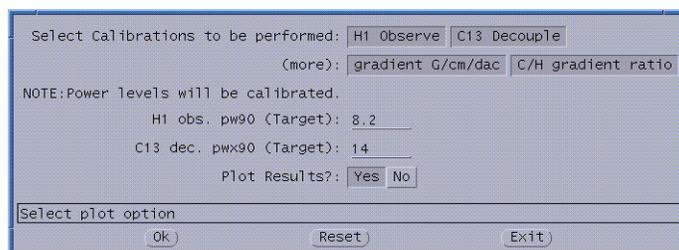

Figure 70. Calibration Target Values Using AutoTest Sample
8. In the calibration window (Figure 70), select the calibration(s) to be run, **H1 Observe, C13 Decouple, Gradient (g/cm/dac), and C/H gradient ratio**.